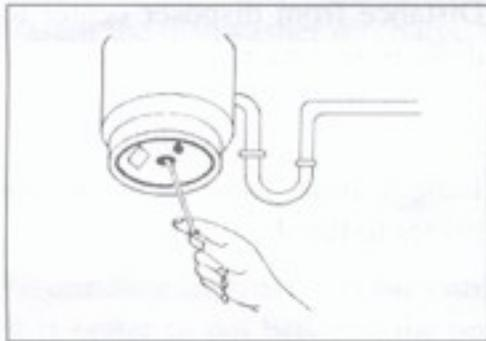

Fig. 2
- 2) Insert the hex wrench into the opening at the bottom of the motor shaft and rotate the tool and the counter clockwise to unblock the food waste disposer(see fig. 2).